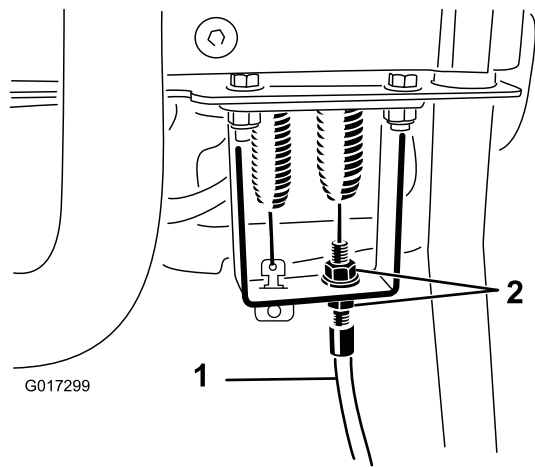

Figure 47
4. At the control handle bulkhead, loosen the reel control cable until there is slack in the cable (Figure 47).